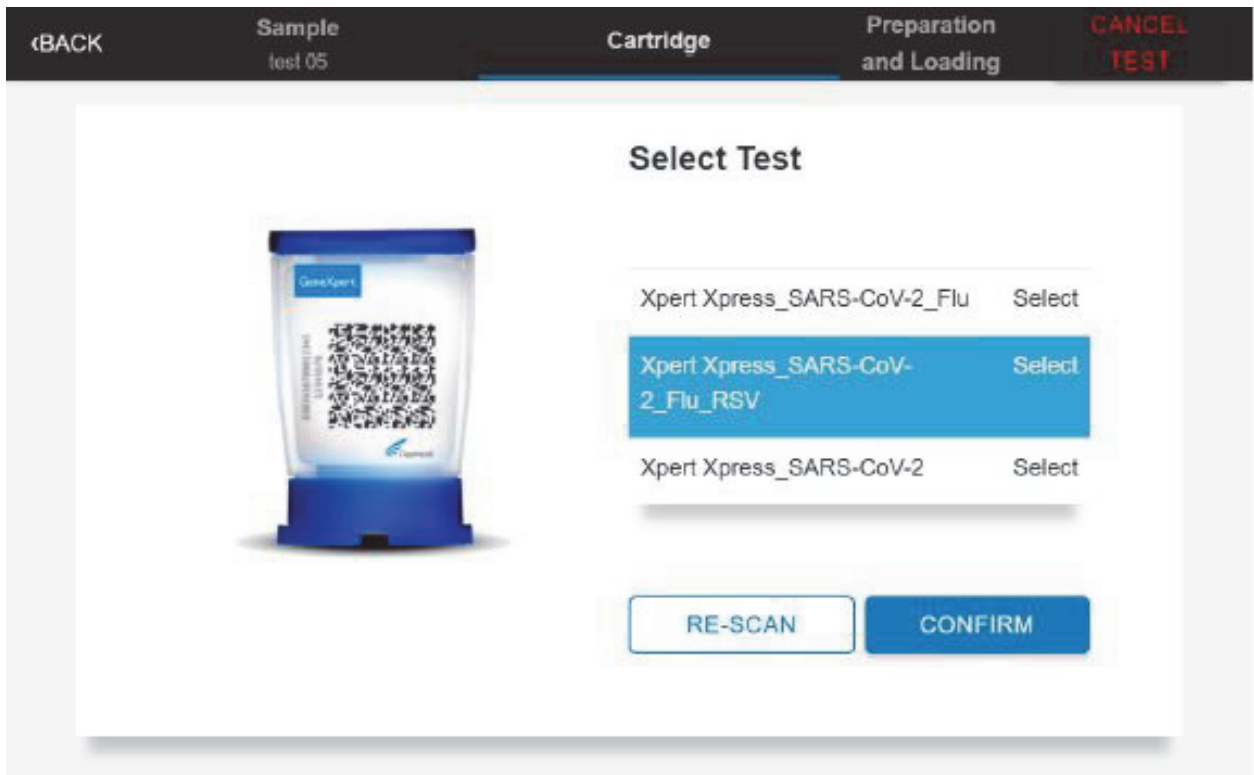

Figure 17. Select Test Screen
6. Select the test to run: (see Figure 17)